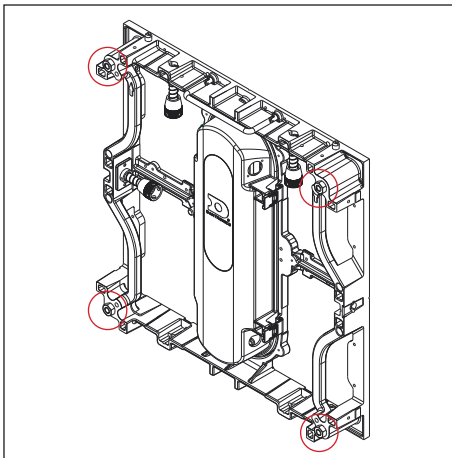

Figure 4: Attach Panel to Tube
1. Insert one self-drilling screw and one M10-1.5x30 mm jacking bolt in the lower corners on each panel. Refer to **Figure 4**.
2. Insert one self-drilling screw and one M10-1.5x30 mm jacking bolt in the upper corners on each panel in the bottom row of panels only. Refer to **Figure 4**.